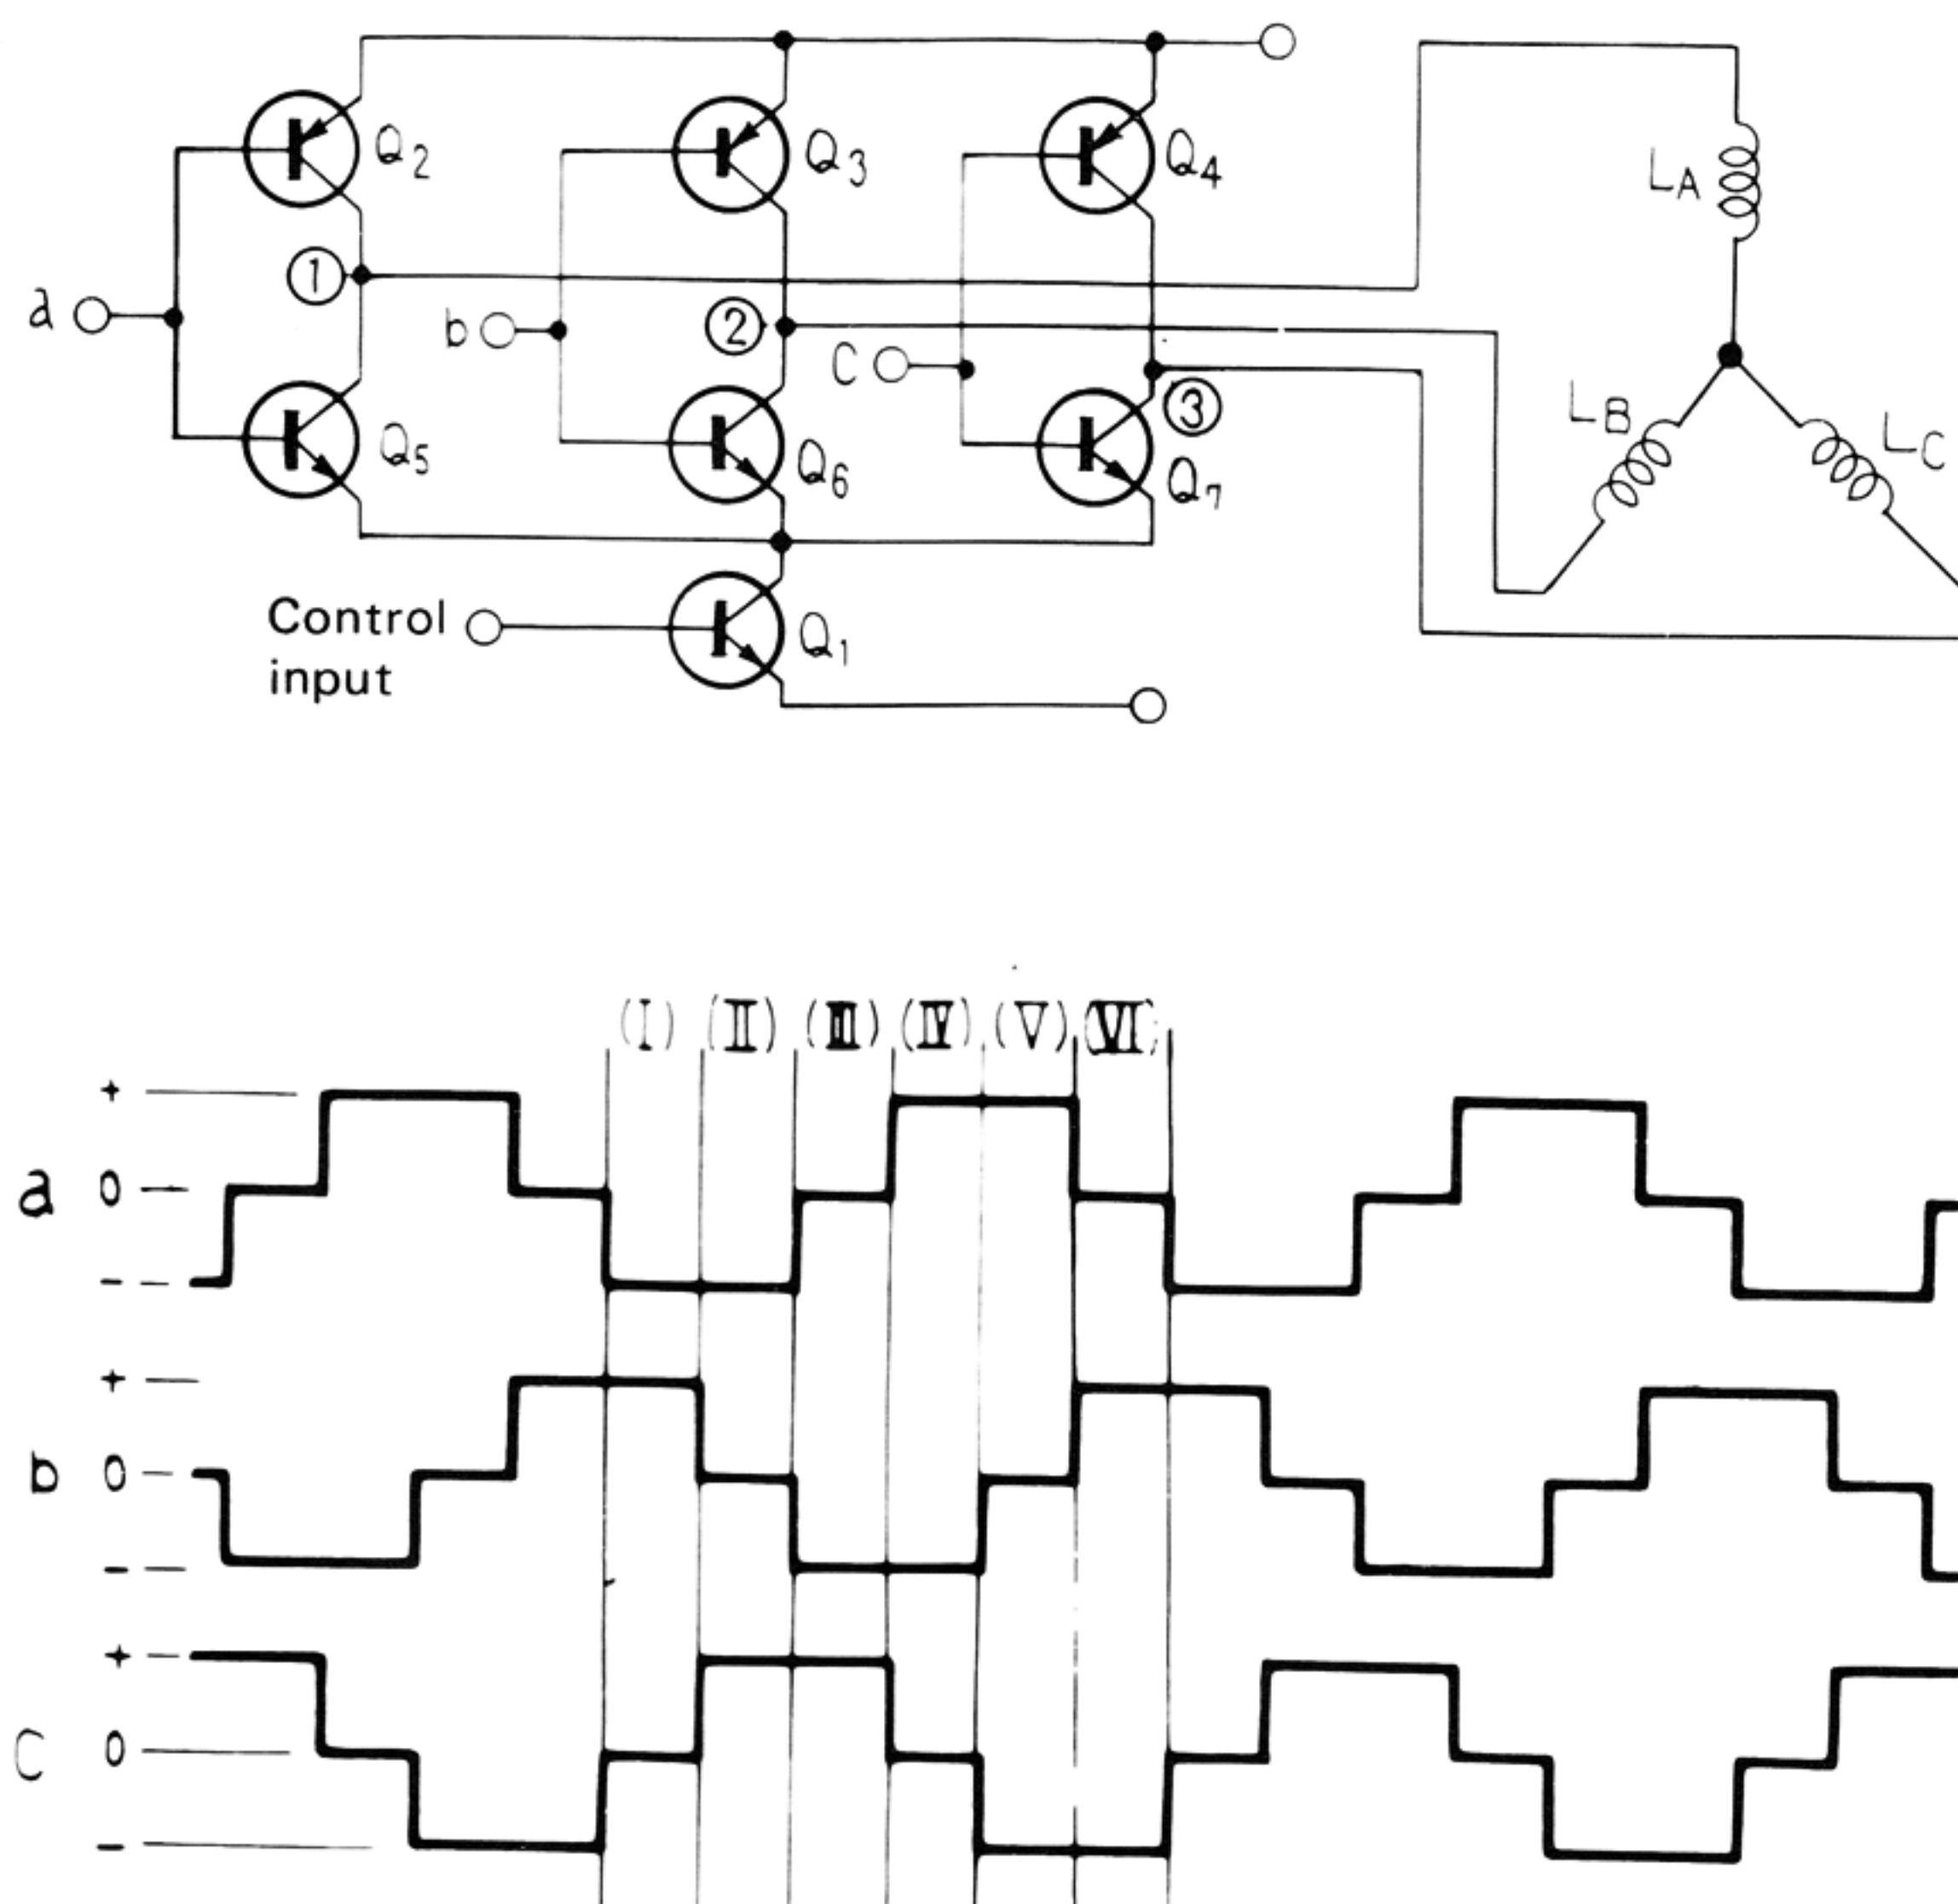

Fig. 18
1. The signals employed in the switching of Q2 ~ Q7 in Fig.18 are generated by 3 Hall elements, and applied to terminals a, b, and c via the position signal formation circuit.